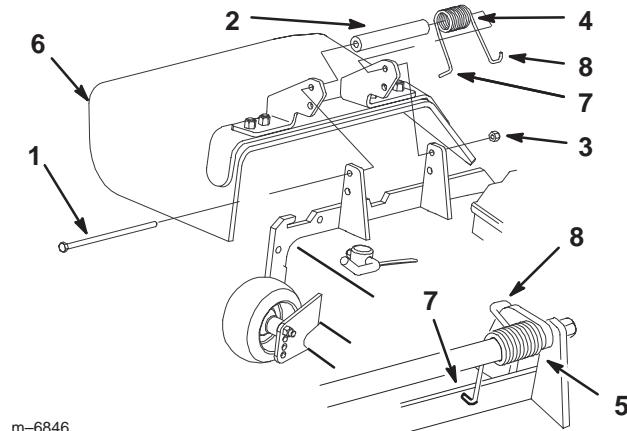

Figure 79
1. Remove the locknut, bolt, spring and spacer holding the deflector to the pivot brackets (Fig. 79). Remove damaged or worn grass deflector.
**Note:** Make sure the **L** end of spring is installed behind deck edge before installing the bolt as shown in figure 79.
3. Install bolt and nut. Place **J** hook end of spring around grass deflector (Fig. 79).